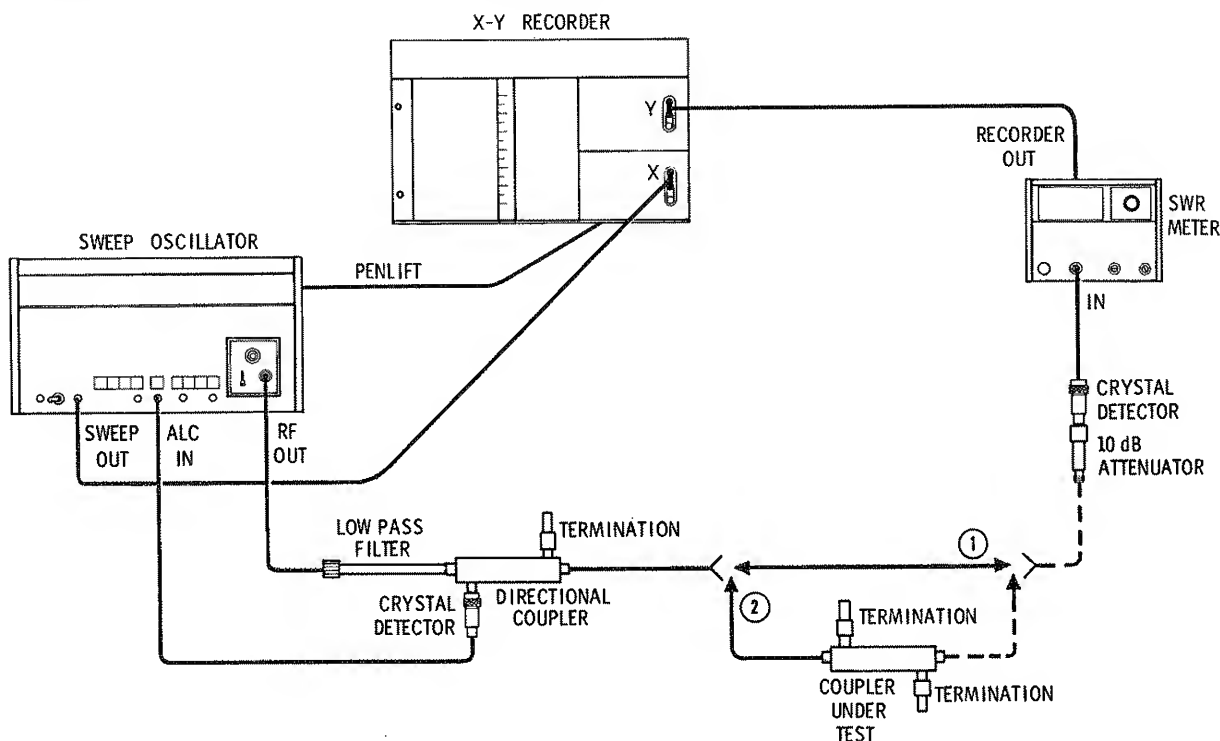

Figure 13. Insertion Loss Test Setup
To test a 774D use another good 774D as the directional coupler in Figure 13. To test a 775D use a good 775D.
- a. Connect the equipment as at (1) in Figure 13.
1. Connect the coupler under test as shown at (2) in Figure 13.